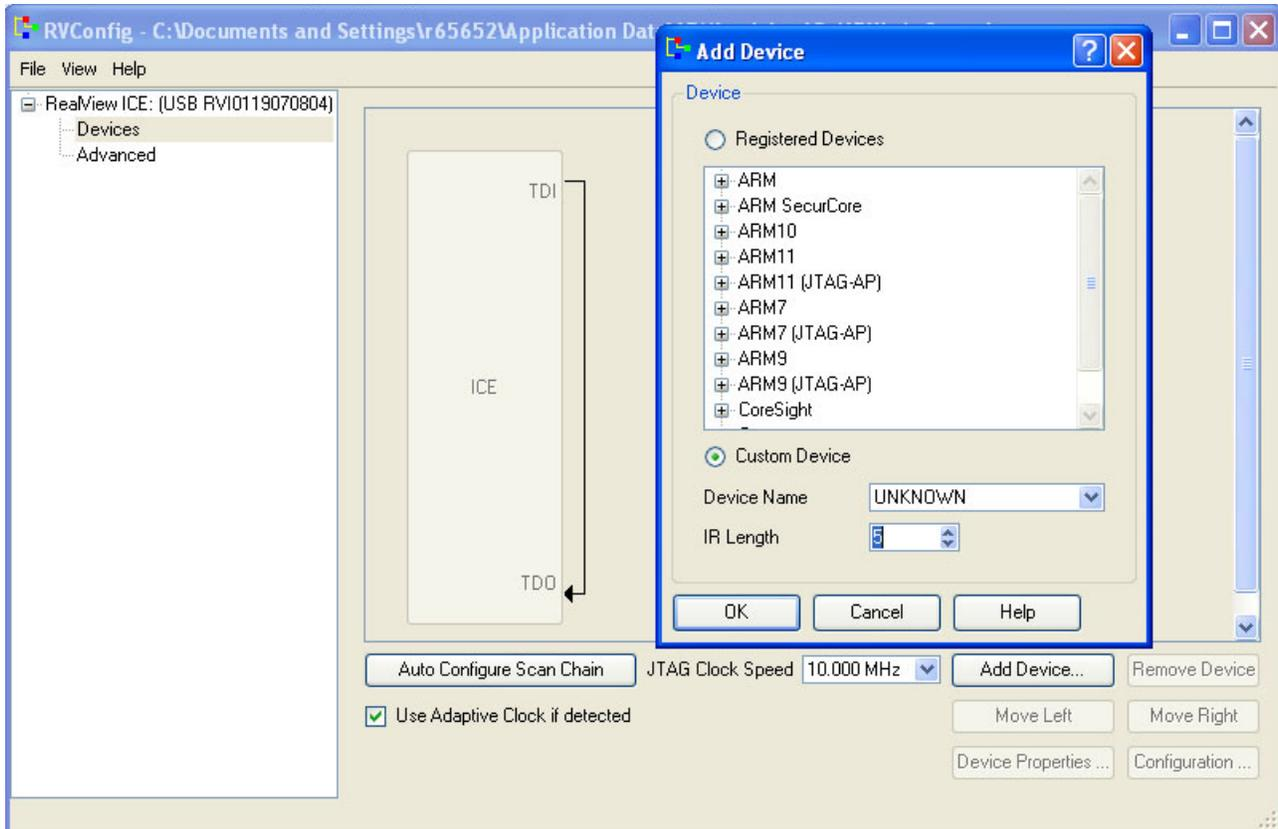

Figure 9-1. Example of Adding a Device
2. Using the order shown below, configure the scan chain with the following connections: TDI → Unknown → Unknown → ARMCS-DP → Cortex-A8 (see Figure 9-1).